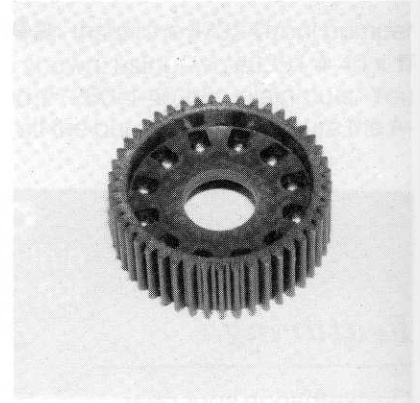

**Fig. 35**
**Figs. 35 & 36** Look for the bag with the #6604 black motor plate as shown in Fig. 68. From there, remove Bag A and take out the #6580 diff gear and the bag with the 12 large #6581 3\32" carbide diff balls. These carbide diff balls are the best there is. They will outlast the diff washers at least 10 times. NEVER replace these balls with any other balls except our #6581 carbide diff balls.